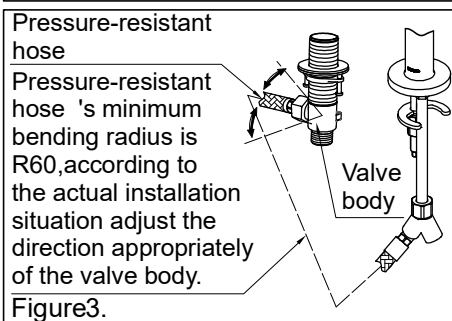

Figure3.
- (4) Screw tightly the fixing seat onto the valve body.
- (5) Use the nut on the pressure-resistant hose to screw tightly the pressure-resistant hose, gasket and valve body.
- (6) Screw tightly the fastening nut on the valve body and then screw the screws on the fastening nut to fix the valve body sufficiently onto the desk.
- (7) Use the nut on the main body of faucets to screw tight the gasket and Y-connector sufficiently (Figure 3).